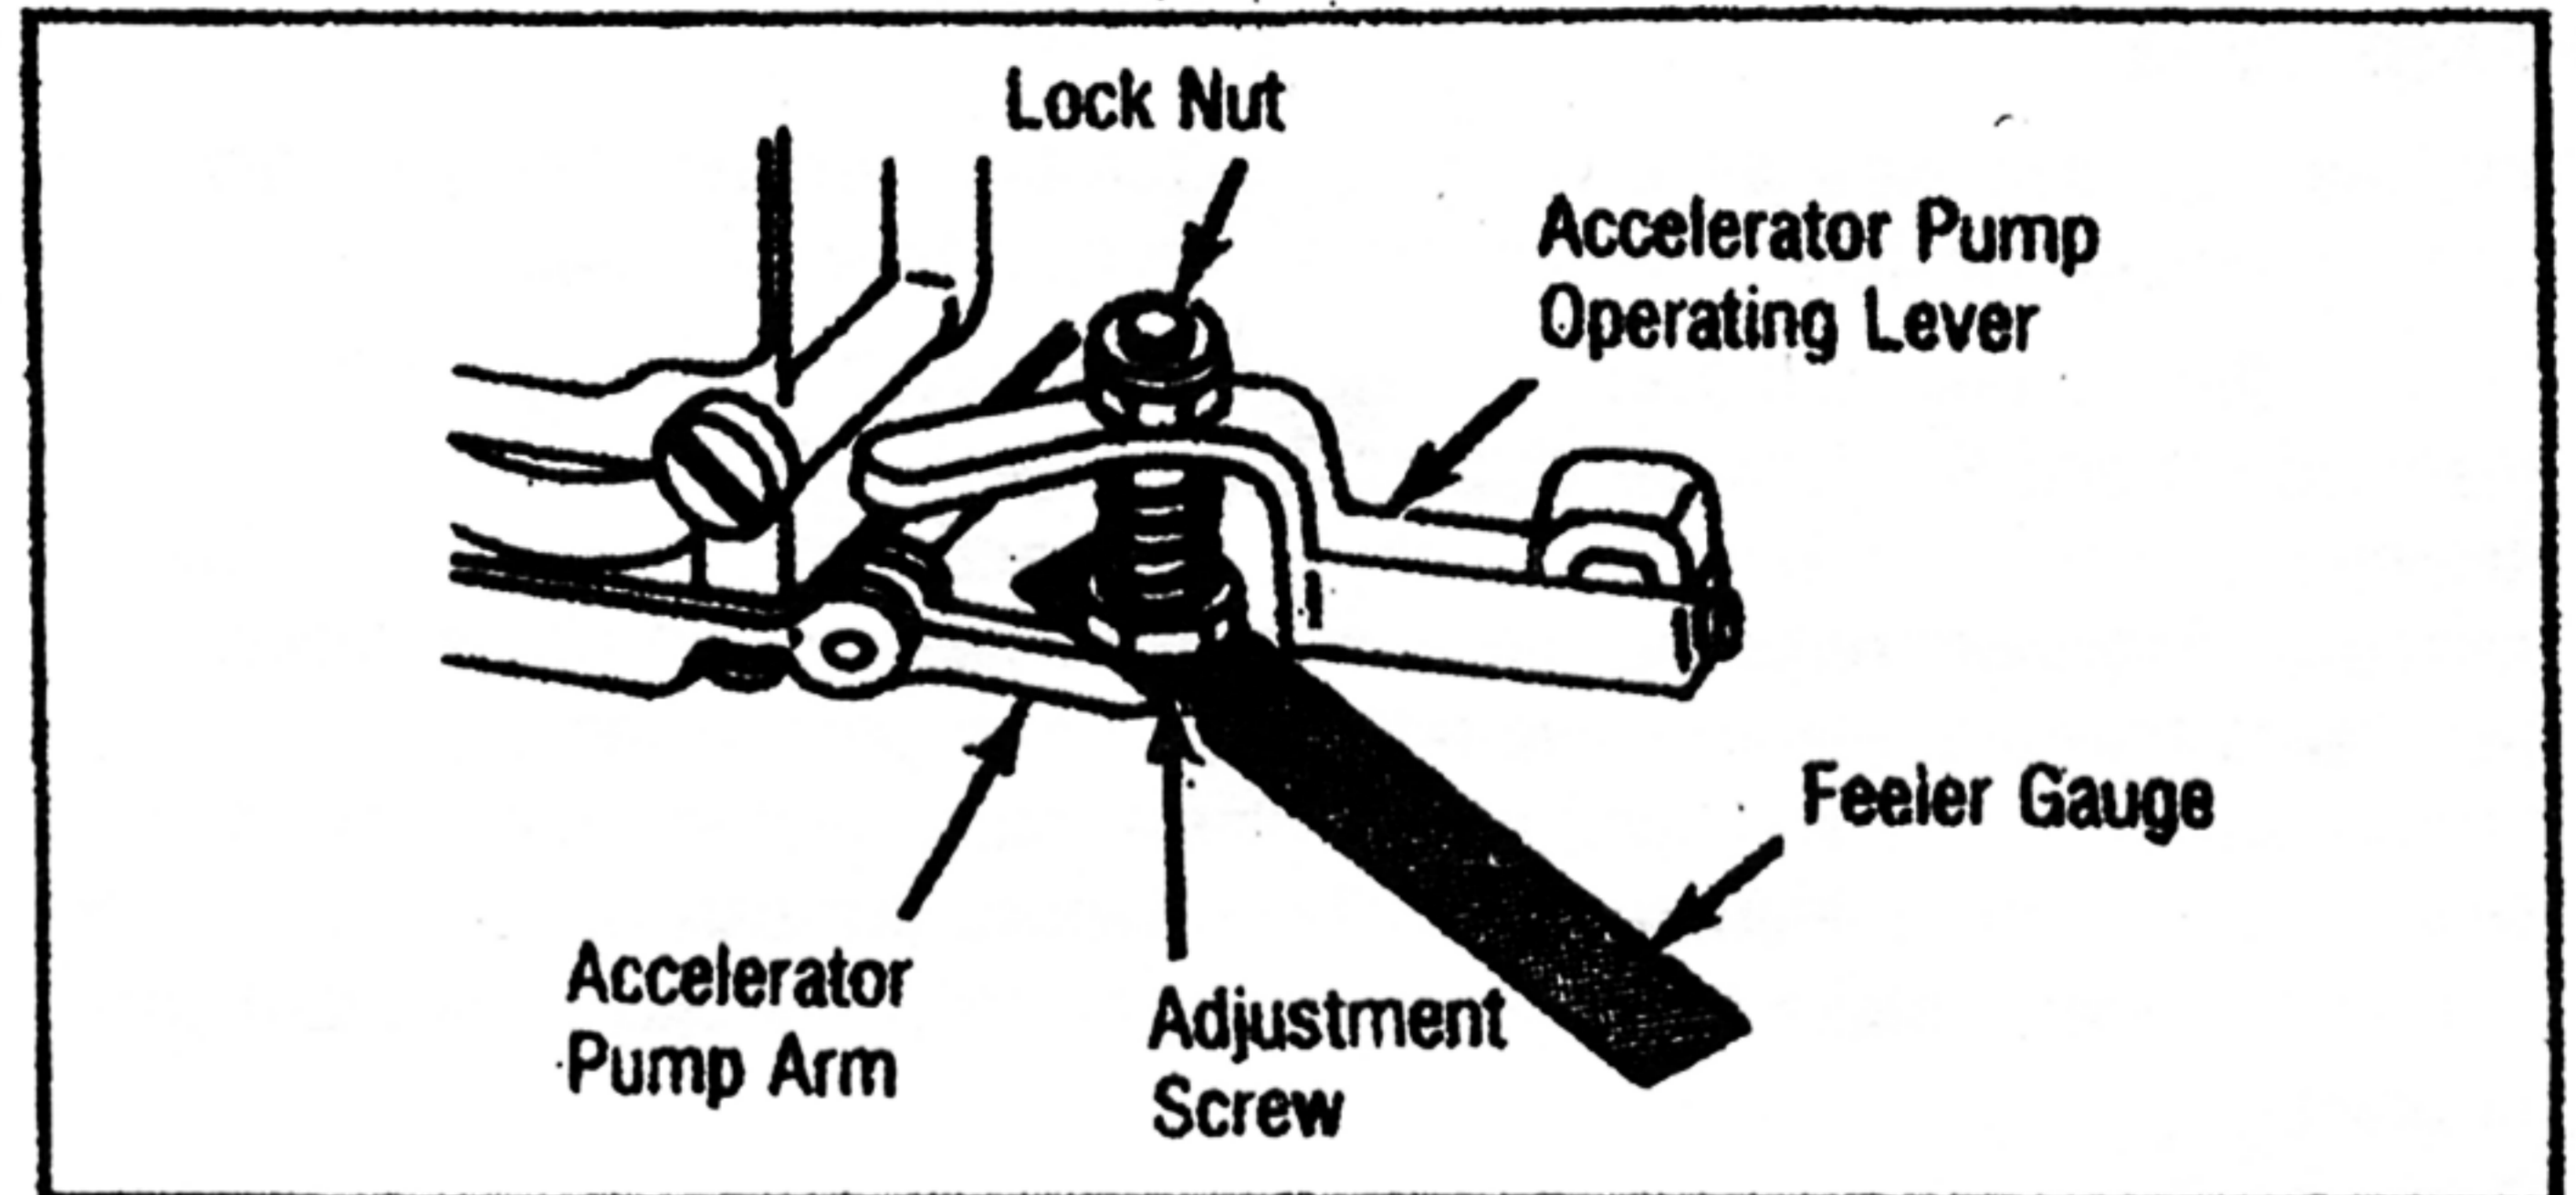

Fig. 7 Accelerator Pump Lever Clearance Adjustment
- Open throttle valves wide open. Manually depress accelerator pump arm. See Fig. 7.